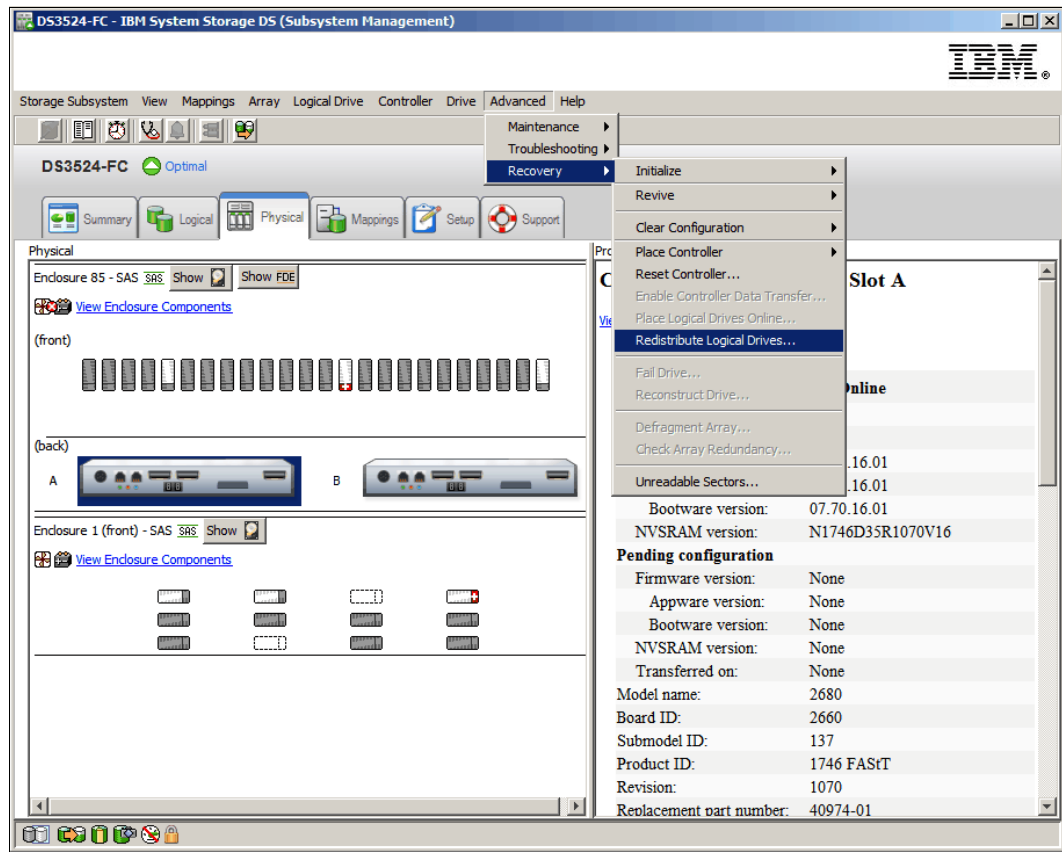

Figure 14-140 Redistribute Logical Drives
1. In the DS Storage Manager (Subsystem Management) window, click **Advanced** → **Recovery** → **Redistribute Logical Drives** as shown in Figure 14-140 on page 425.